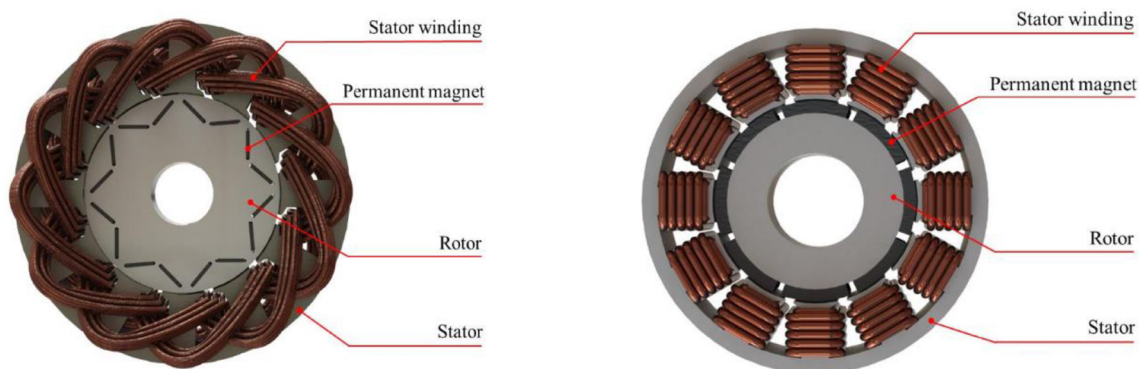

FIGURE 8-34. (a) IPM motor (b) brushless dc motor configurations
IPM (interior permanent magnet) motor is an Alternating Current (AC) synchronous motor, where the permanent magnets are inserted inside the rotor, while in brushless dc motors the permanent magnets are mounted on the surface of the rotor, as illustrated in figure 8-34.